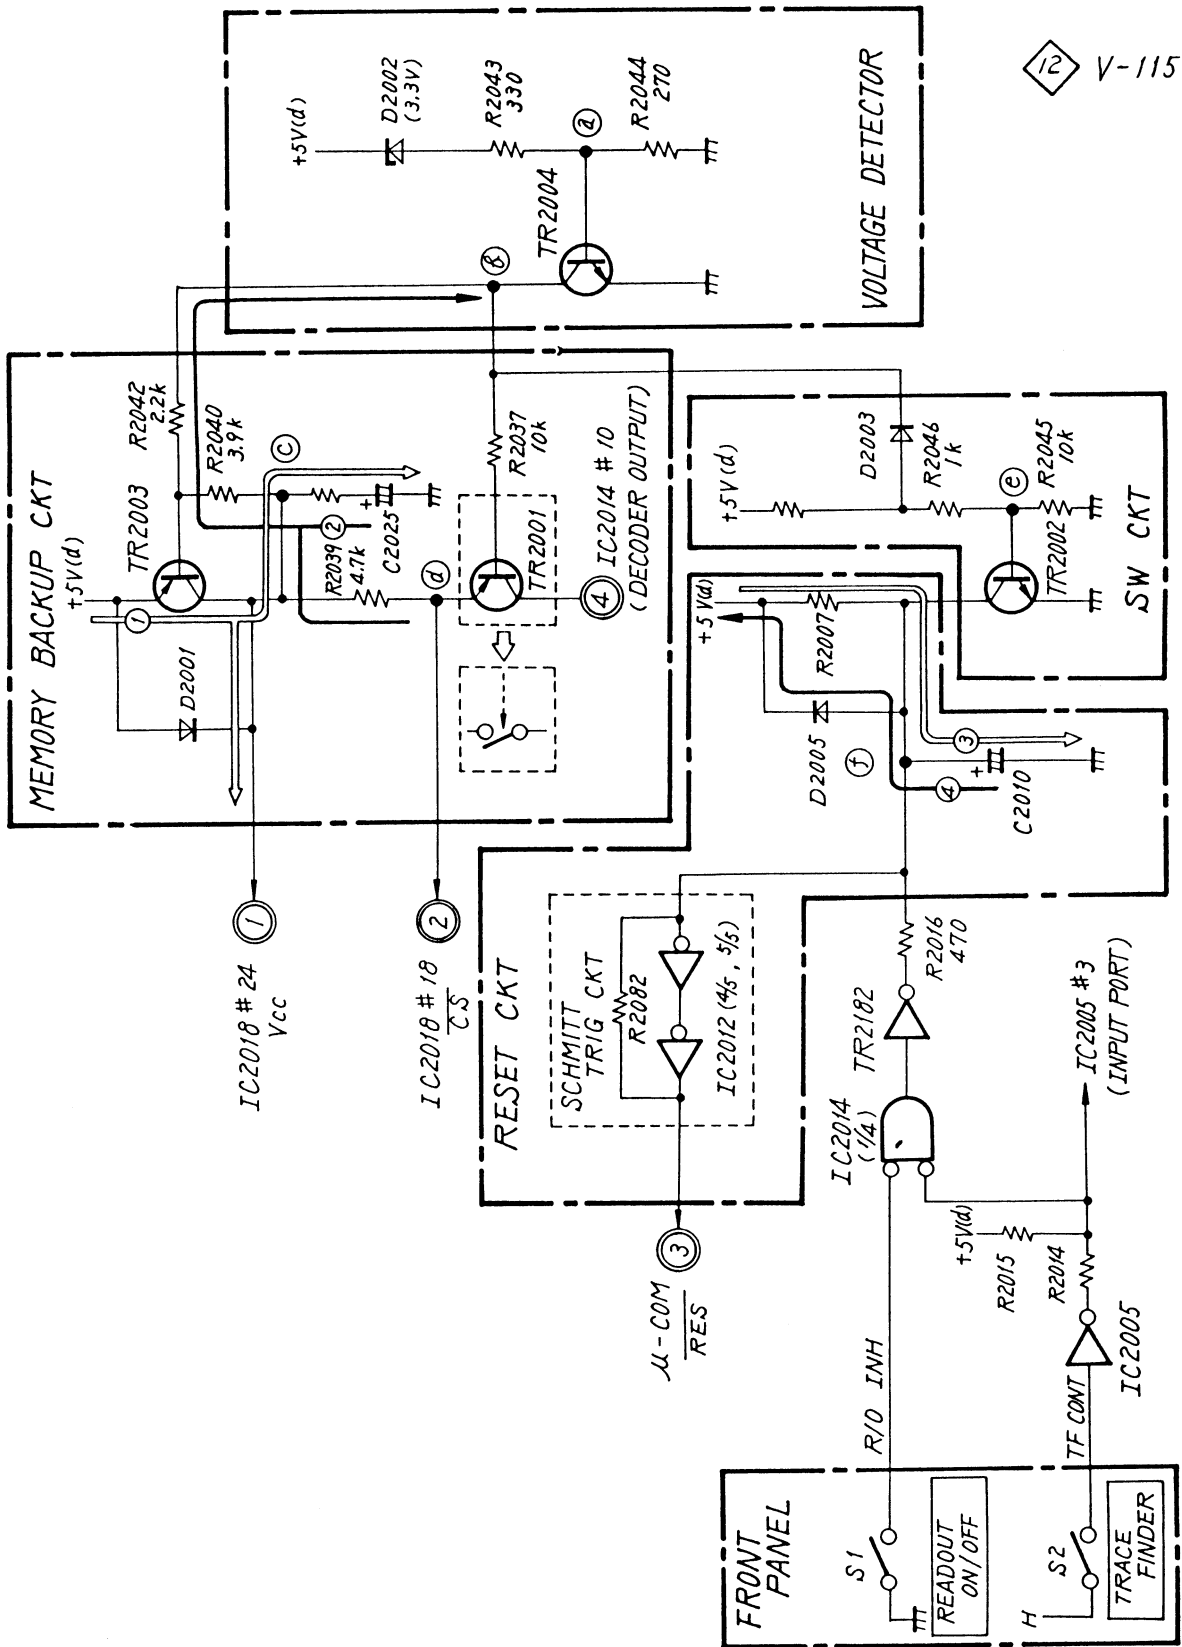

Fig. 6-20
The reset circuit and the memory backup circuit are described below by using Figure 6-20. As shown in Figure 6-20, the reset circuit consists of the RC circuit and the Schmitt trigger circuit. If the power is off, the potential at point (f) becomes zero volts. When the power is turned on at this time, the charging current $\leftarrow \textcircled{3} \rightarrow$ flows to C2010 via R2007 and the potential at point (f) rises gradually. When the potential reaches a certain value, the output of the Schmitt trigger circuit changes from "L" to "H." That is, terminal RES of the microcomputer is kept low in a certain period immediately after the power is turned on. The Schmitt trigger circuit is provided since an ideal exponential function waveform cannot be obtained at point (f).
- (1) Supplies the voltage to terminal V_{CC} of RAM 1 IC2018 ((1) in Figure 6-20) to prevent the data in the RAM from being destroyed, and
- (2) Sets terminal \overline{CS} of RAM 1 IC2018 ((2) in Figure 6-20) to "H" to prevent the RAM from being selected (i.e. prevents the RAM from reading and writing the data.)
When the +5V(d) line voltage is normal, TR2003 is on, and the current flows in the direction of arrow (1). Then, the voltage of +5V is supplied to (1), TR2001 becomes on, and the control signal from pin 10 of IC2014 is supplied to RAM 1 IC2018. As shown in figure 6-20, TR2001 can be regarded as a switch controlled by the voltage at point b. C2025 is charged by part of the current shown with 1. On the other hand, TR2004 is on, the potential at point b is "L" and D2003 is on. Then, the potential at point (e) becomes "L," TR2002 becomes off, and the potential at point (f) becomes "H."